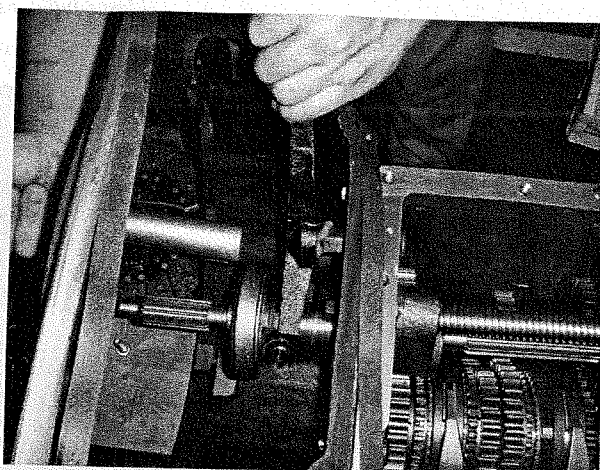

Fig 2-21
(1) Mount the spring and the steel ball into the hole of poking fork, set in the gear shift lever, gently knock at it and have it properly mounted (Fig 2-21).